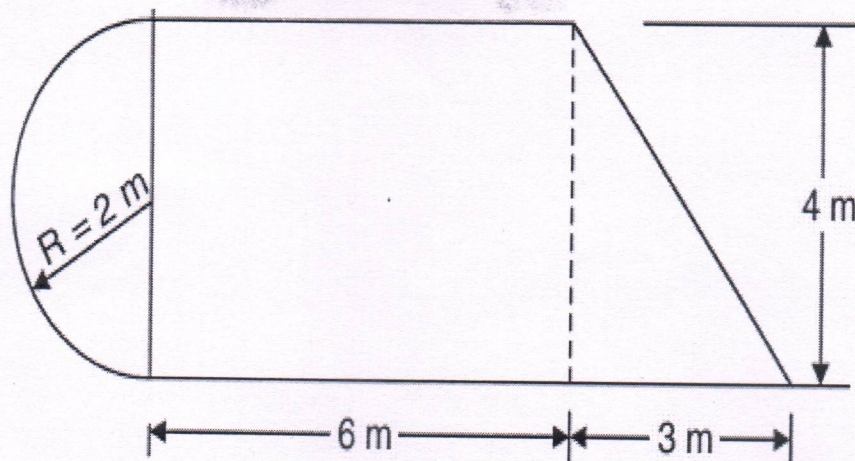

Fig. 3.2
2. Determine the centroid of the area shown in Fig. 3.2 with respect to the axis shown.